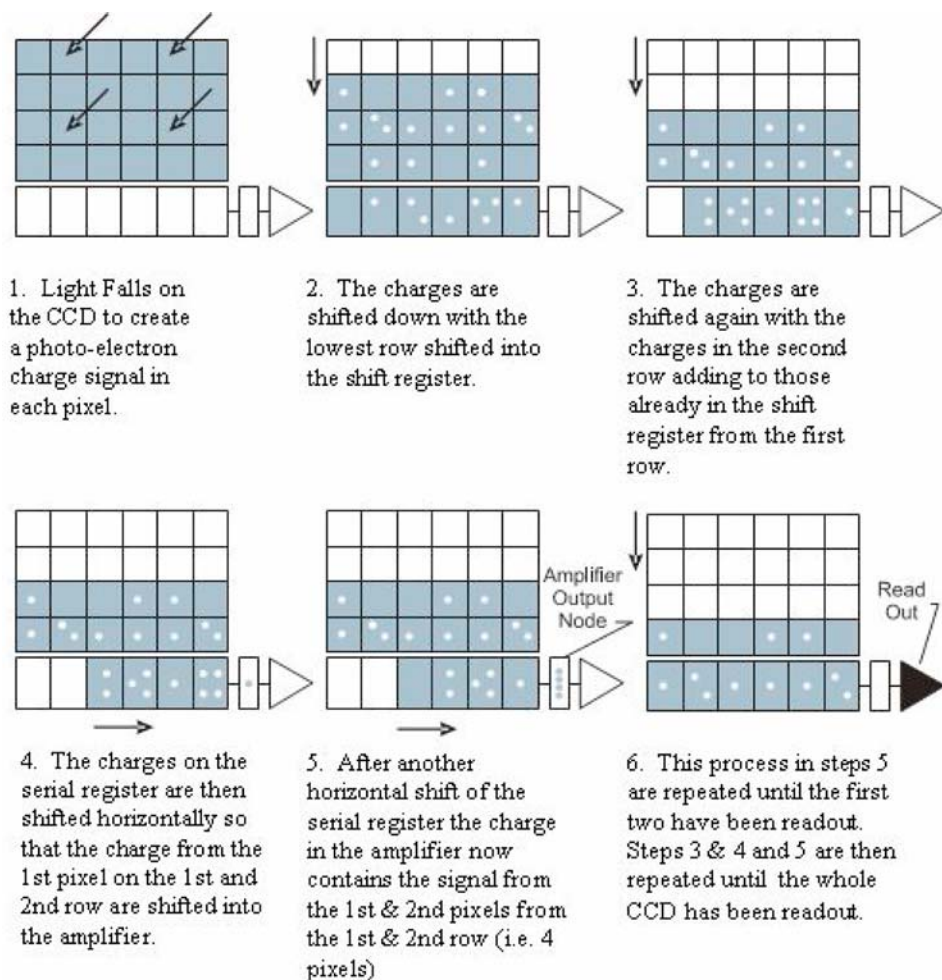

FIG. 2 Example of a  $2 \times 2$  Vertical and Horizontal Binning Methodology
DISCUSSION—There are two main types of binning: (1) vertical binning and (2) horizontal binning (see Fig. 2). Summing charge on the CCD and doing a single readout results in better noise performance than reading out several pixels and then summing them in the computer memory. This is because each act of reading out contributes to noise (see **noise**).
**horizontal binning,  $n$** —the process that allows charge from a row of pixels to be combined on the CCD chip prior to readout (See Fig. 2). Horizontal binning is commonly used in spectroscopy to increase the signal level of a data point, when less horizontal (or wavelength) resolution is not of concern.